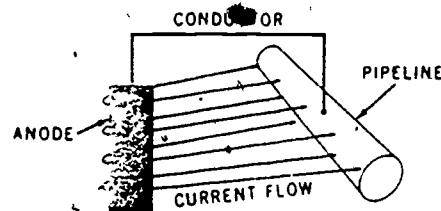

Figure 4. \_\_\_\_\_
3. In the space below figures 4 and 5